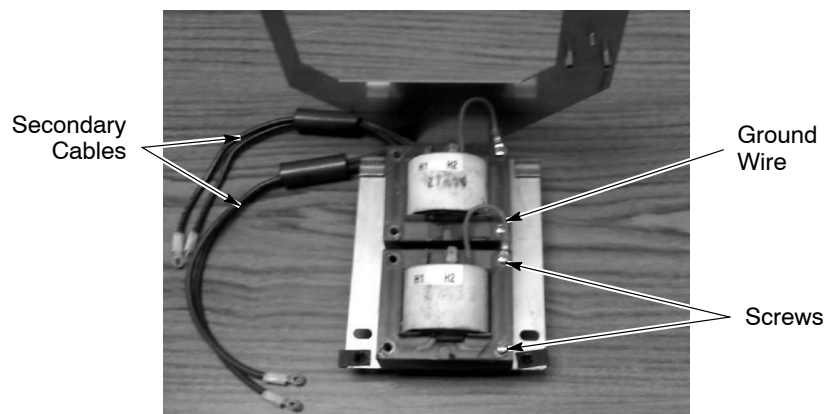

Figure 6-21 Transformer Installation
7. See Figure 6-21. Install the new transformer on the bracket. If replacing the outer transformer, route the secondary cables under the inner transformer.